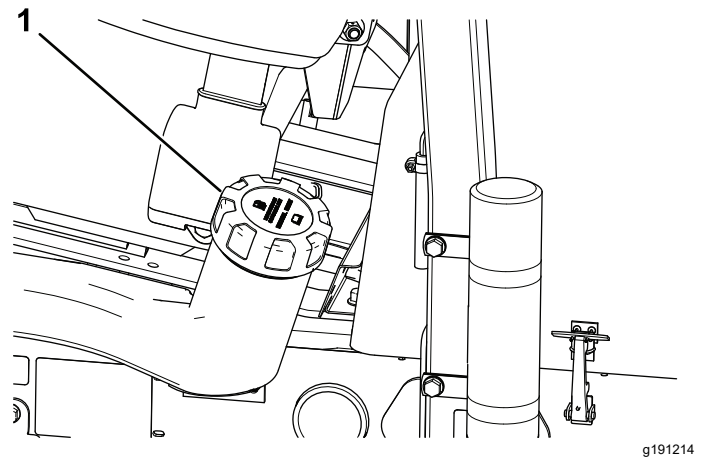

Figure 36
2. Clean the area around the fuel-tank cap (Figure 36).